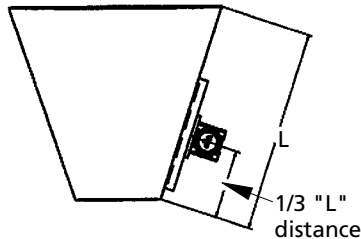

Figure 5
1. Mount vibrator 1/3 of the distance from the discharge opening to the top of the sloped portion of the bin. See Figure 5.